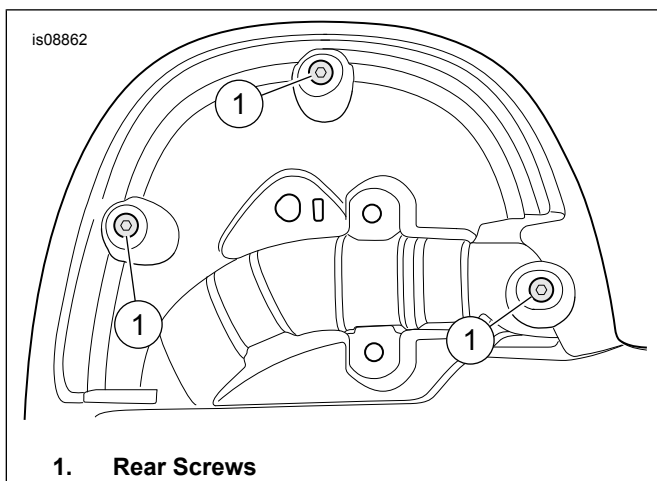

Figure 8. Rear Screws
9. See Figure 8. From the rear, install three self-tapping enclosure screws (1). Tighten.